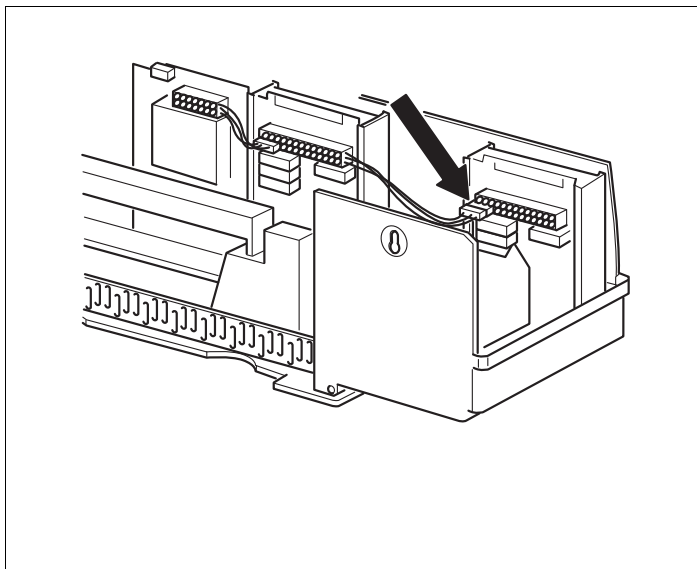

Fig 21 Providing the 230 V power supply
- Plug the 230 V module connector into the correct position on the terminal strip (for module connection at slot 1, → Fig. 21).